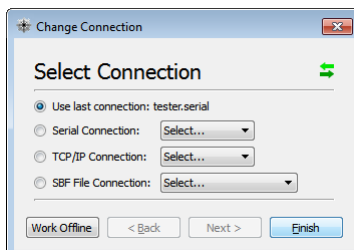

Figure 2-3: Connection dialog
4. The `Change Connection` dialog (see Figure 2-3 on page 23) will appear. For the first connection, choose `Serial Connection | Create New | Next>`.
On startup, RxControl pops up a **Change Connection** dialog asking the user to specify the communication settings (see Figure 2-3 on the next page). The user can choose between four connection options:
If connections files are available at startup, RxControl displays the `Use Last Connection` option and specifies the name of the corresponding connection file in the `Change Connection` dialog (see Figure 2-3 on the preceding page).
If RxControl is already running, the `Change Connection` dialog (see Figure 2-3 on page 23) can be opened by choosing `File | Change Connection` in the RxControl's main window.